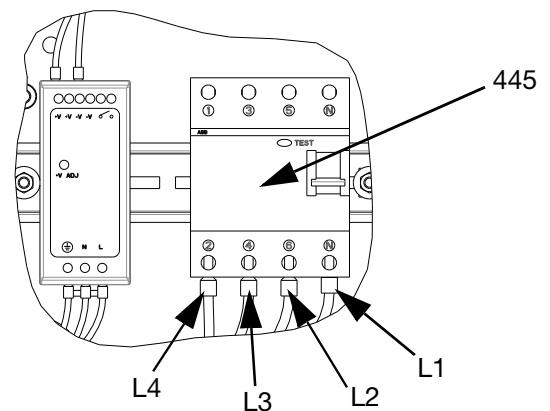

FIG. 19
- Connect the L1, L2, L3, and L4 wires from the Expansion Module to circuit breaker (445) as shown in FIG. 19.
- Connect the ground wires to the ground terminal (455) by loosening the nut (437) on the wiring harness.